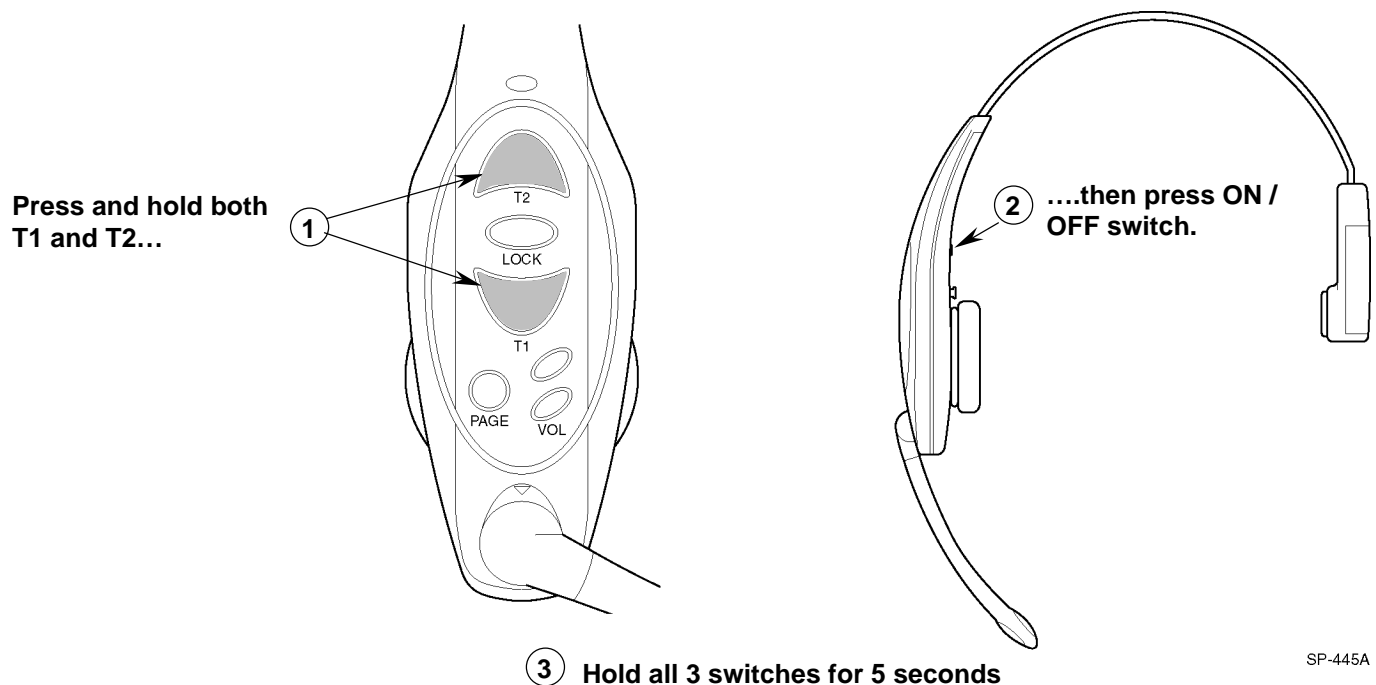

Figure 14.
- While pressing and holding *both* the T1 and T2 switches on the headset, turn the headset ON. Hold all three switches for at least 5 seconds. See Figure 14.